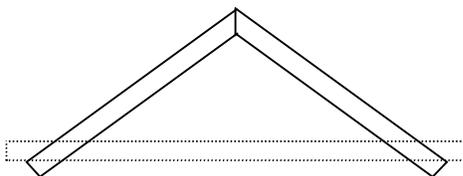

Figure 4
10. Take the two 18 3/4" boards with the 45 deg cuts and place them together securely. Check to be sure the assembled joint is exactly 90 deg. If not, correct until they form a perfect 90 deg angle. See Fig 4.